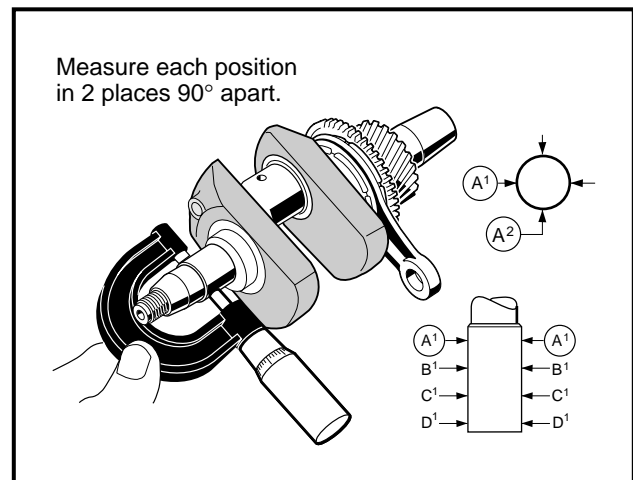

Figure 13-83 Measure Crankshaft Journals
2. Using a micrometer, measure both main journals (PTO side and flywheel side) at several points along their lengths (**Figure 13-83, Page 13-39**).